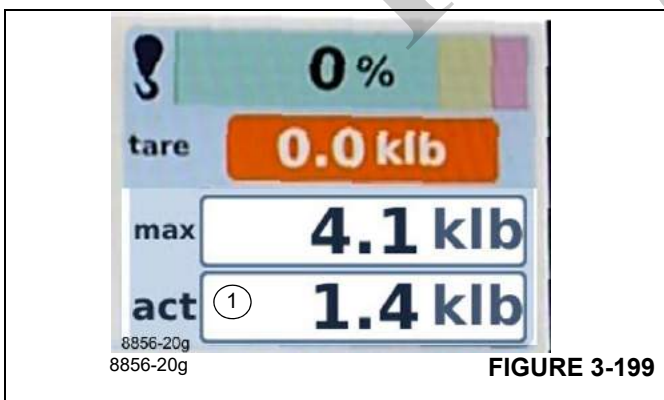

FIGURE 3-199
| Display: | Lifted load (1), (Figure 3-199) in metric tons (t) or kilo-pounds (klbs)Example: 5.95 klb equals 5,950 lbs. |